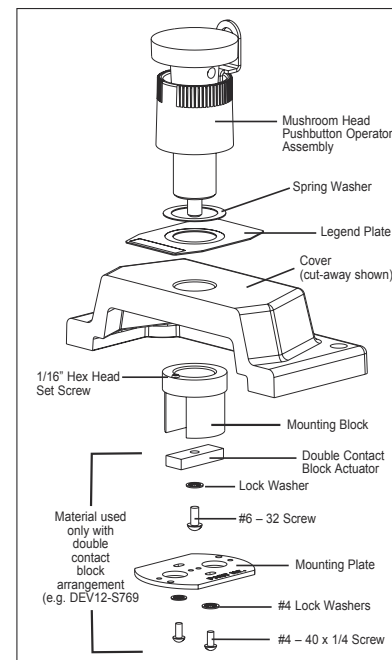

Figure 7. Assembly of Maintained Mushroom Head Pushbutton Operator
- Referring to Figure 7, install pushbutton sub-assembly, including lockout tab, to the front side of the cover by threading it down tight to the cover in the desired location. Orient this assembly so that the lockout tab allows a hasp of the lock to not interfere with an adjoining device. Use a DL Legend Plate, if required, as noted in 'Assembly of Pushbuttons.'
- This step will allow the contact block(s) to be in the proper position. Fasten the mounting block to the pushbutton sub-assembly on the inside of the cover. If using one (1) contact block (operator part number DEV11-S769), orient the mounting block so that the two (2) drilled and tapped mounting holes are parallel to the long side of the cover. If two (2) contact blocks (operator part number DEV12-S769) are to be used, orient the contact block mounting screws so that the two (2) drilled and tapped mounting holes are perpendicular to the long side of the cover. Tighten the set screw using a 1/16" Allen wrench, thereby locking the pushbutton assembly to the cover (see Figure 7). For DEV12-S769 only, using #6-32 screw and lock washer, fasten double contact block actuator to operator plunger. The countersunk hole is designed to accept this screw head. Fasten mounting plate to mounting block using two (2) #4-40 screws and washers per Figure 7.